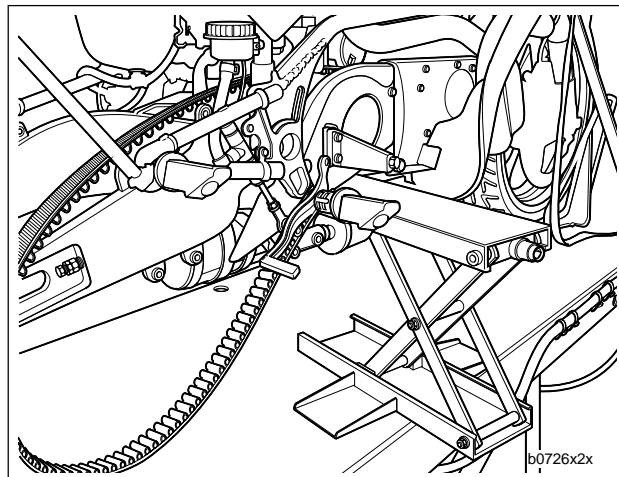

Figure 2-72. Scissors Jack (Typical)
12. See Figure 2-72. Place a jack under the crankcase.